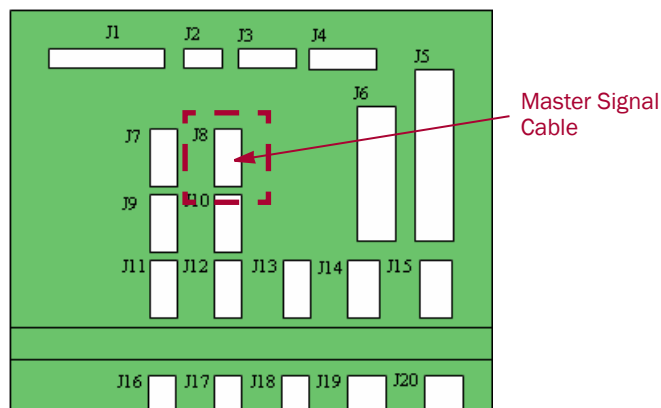

Figure 3-9: Master Signal Cable Connection
4. Connect the HRA Master Signal Cable to **J8** (see Figure 3-9).